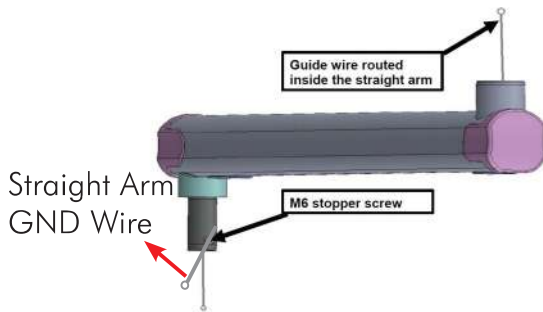

Figure 23
- Take the straight-arm and remove the M6 stopper screw using 5mm Allen key and keep it separately Figure 23 .